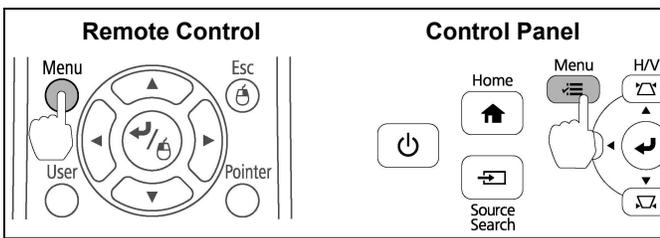

Figure 16
2. Press **MENU** button on the remote or projector control panel. (See Figure 16)